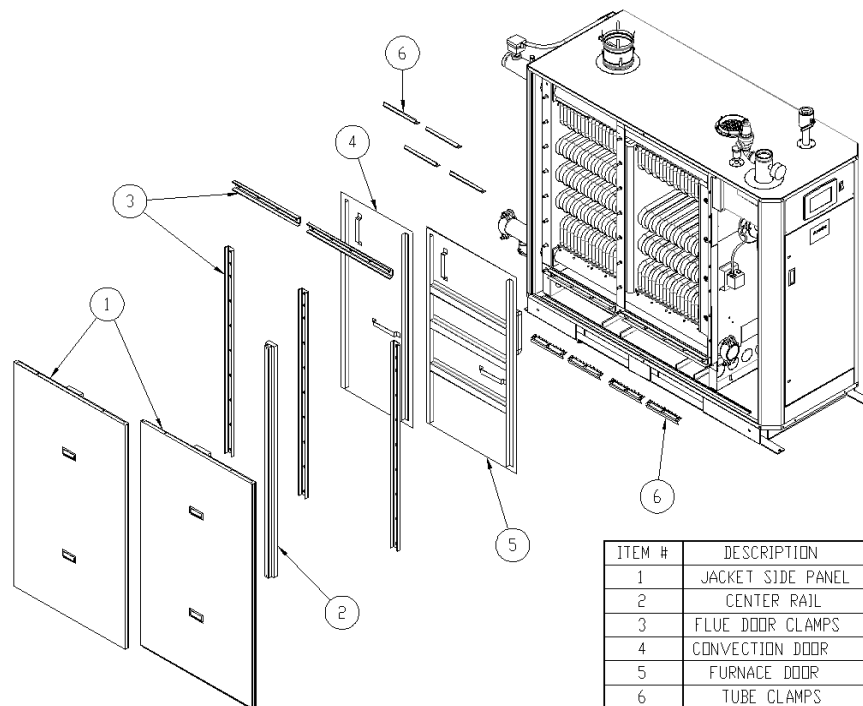

Figure 8: Panel Removal in Preparation for Tube Inspection
3. Remove the boiler's left side jacket panels and flue collector access panels as shown in Figure 8.